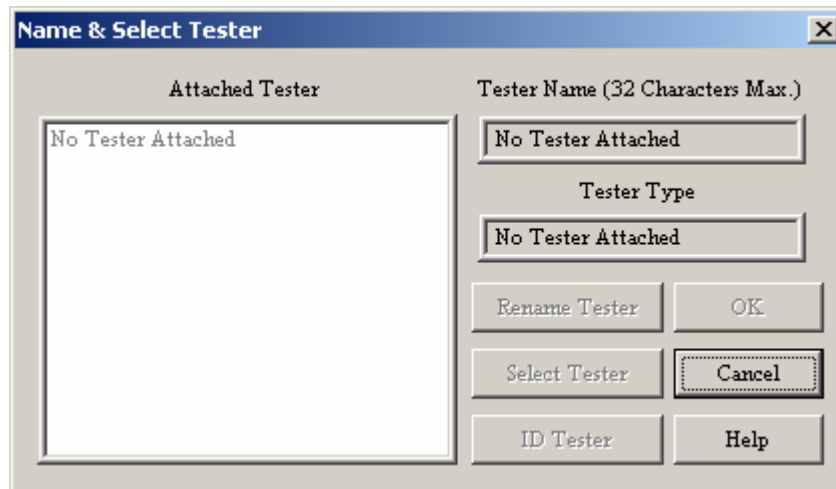
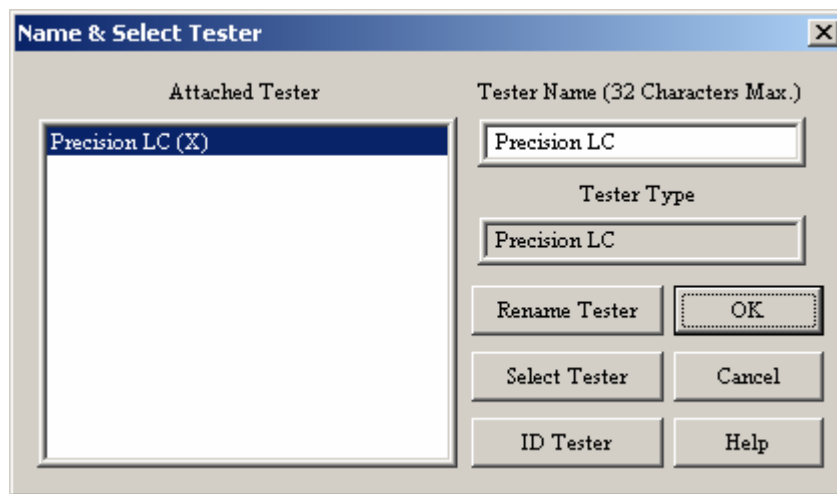

Figure 1 – Hardware Identifying Dialog.
Figure 12 – Tester Selection Dialog with Precision LC Found and Selected.
Thank you for updating your Precision LC Tester Vision software to Version 4.1.0. Once you have installed Vision 4.1.0, you may find that the software does not locate the Precision LC tester. This is evident on software startup when the initial dialog indicates that no hardware is found (**Figure 1**). Note that this situation should only apply to users that are running Vision 3.1.0 or older. If you are running Vision 3.2.0, this procedure should not be required.
16. Vision may not detect the tester in the first attempt. In that case, the green light will not start flashing and the hardware detection and selection dialog will indicate that no tester has been found as in **Figure 1**. In that case, either stop and then restart Vision or go to the Vision Tools->Hardware Refresh menu option. Either action will cause the green light to start flashing and the hardware selection dialog to indicate that the LC has been found (**Figure 12**).